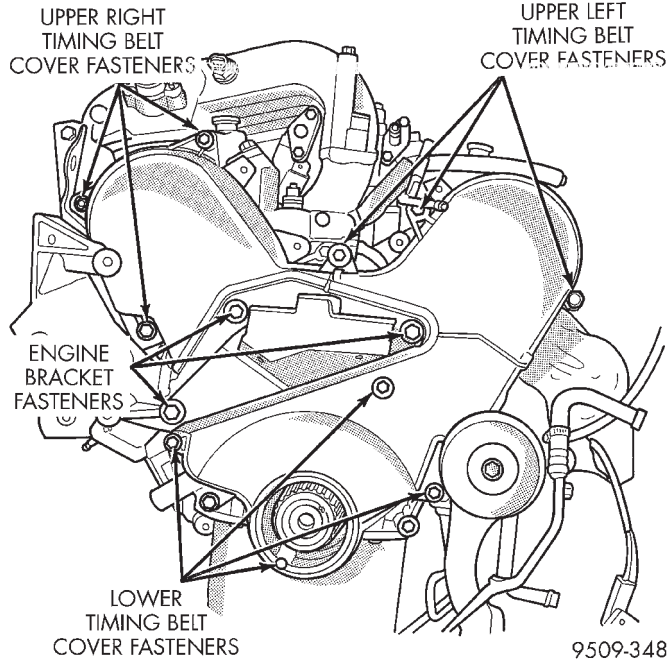

Fig. 104 Timing Belt Covers
- (1) Remove the upper left timing belt cover (Fig. 104).
- (2) Inspect both sides of the timing belt drive & back. Replace belt if any of the following conditions exist.